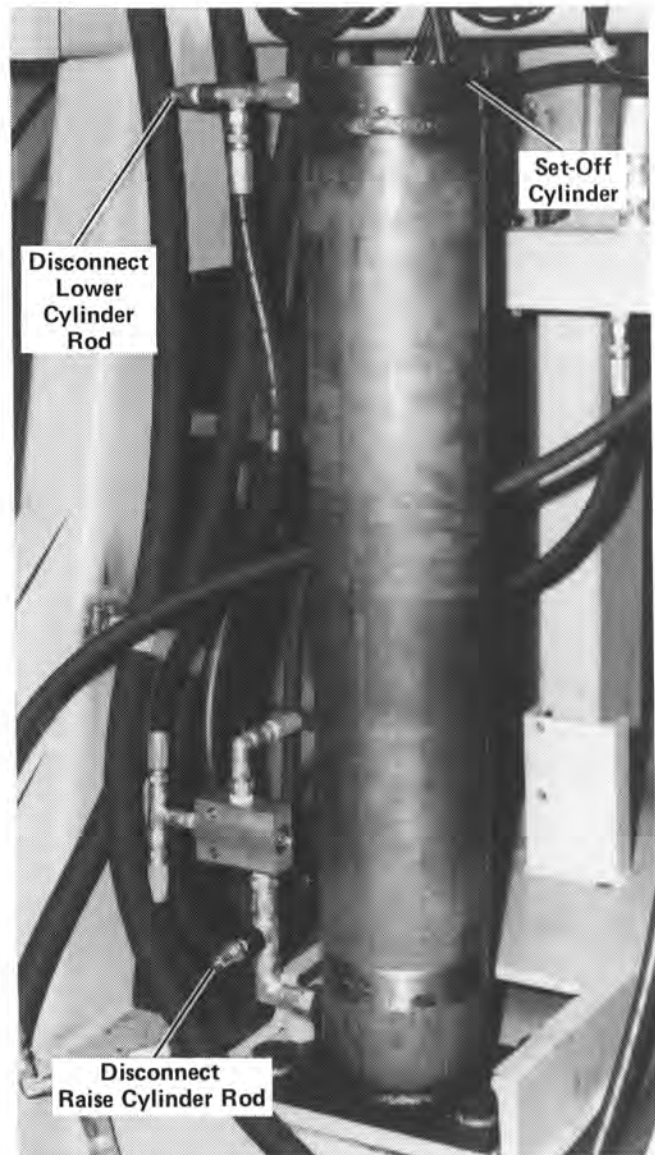

Figure 14
1. Connect the hose from the hand pump to the disconnect at the top of the set off cylinder. See Figure 14.
1. Connect the hose from the hand pump to the disconnect at the bottom of the set off cylinder. See Figure 14.